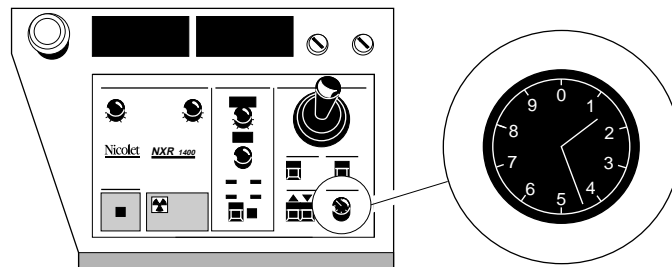

Figure 3 - Rotation Knob
2. Turn the **Rotation** knob (Figure 3) on the control panel to rotate the sample. Turning the knob all the way to the right rotates the sample slightly more than 360°.